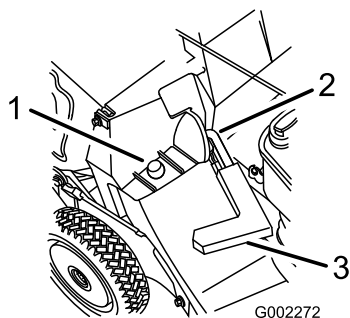

Figure 19
2. Ensure that the discharge door handle is fully forward and that the pin is engaged in the catch (Figure 19).
3. Slide the hole in the bag frame onto the retaining post on the discharge tunnel (Figure 19).
2. Raise the discharge door handle and move it forward to engage the pin with the catch (Figure 19).